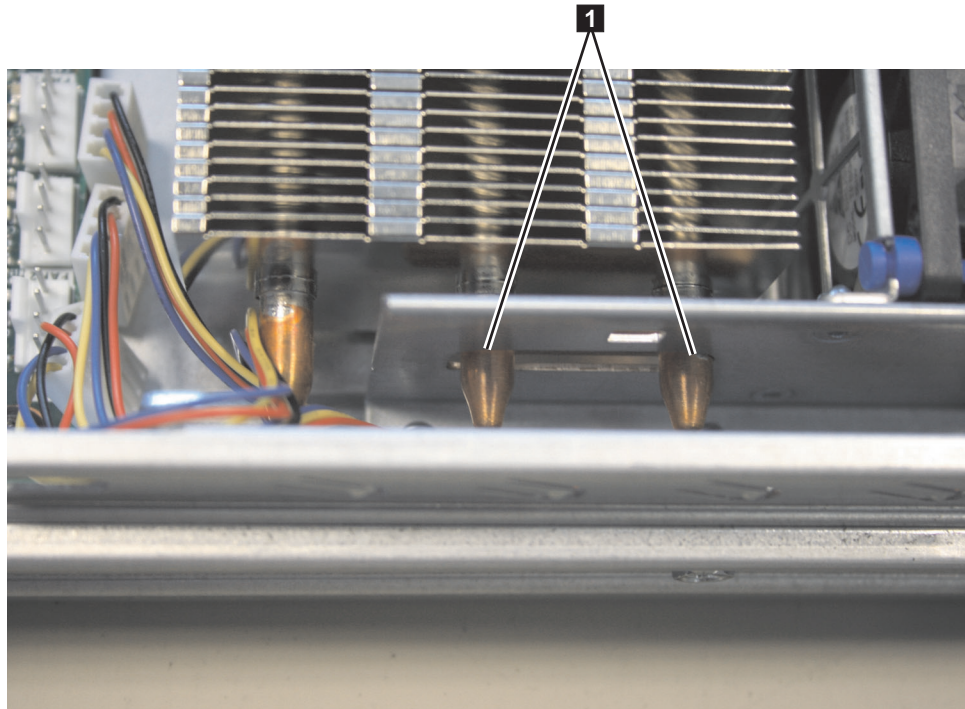

Figure 258. Alignment pins on the SAN Volume Controller 2145-8A4 heat-exchanger assembly
5. With the heat-exchanger assembly at an angle, carefully align the heat-exchanger assembly with the microprocessor and the heat exchanger retention module (socket) on the system board. Make sure that the alignment pins **1**, shown in Figure 258 on page 274, protrude through the alignment hole (the opening in the side of the heat-exchanger bracket) and that the flange of the heat sink rests under the lip of the heat-exchanger socket.